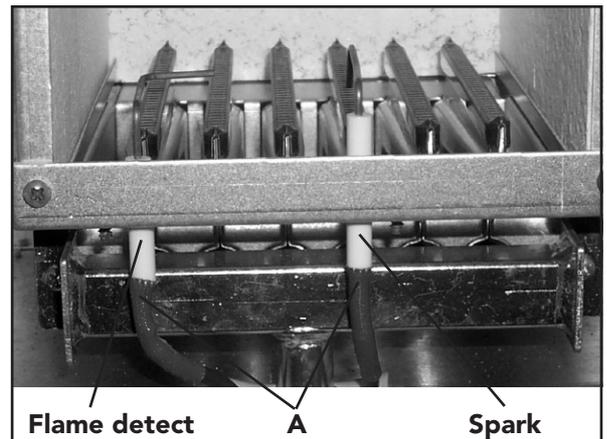

Fig. 28
**Spark or flame detect electrode** (fig. 28)
- Identify electrode from fig. 28